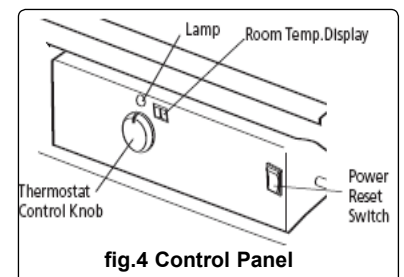

fig.4 Control Panel
- 5.1.4 Turn the thermostat control knob (fig.4) to the desired temperature setting. The heater has a range from 4°C to 43°C. Press the power switch to the "ON"(I) position. The lamp and the room temperature display will illuminate and the heater will start.